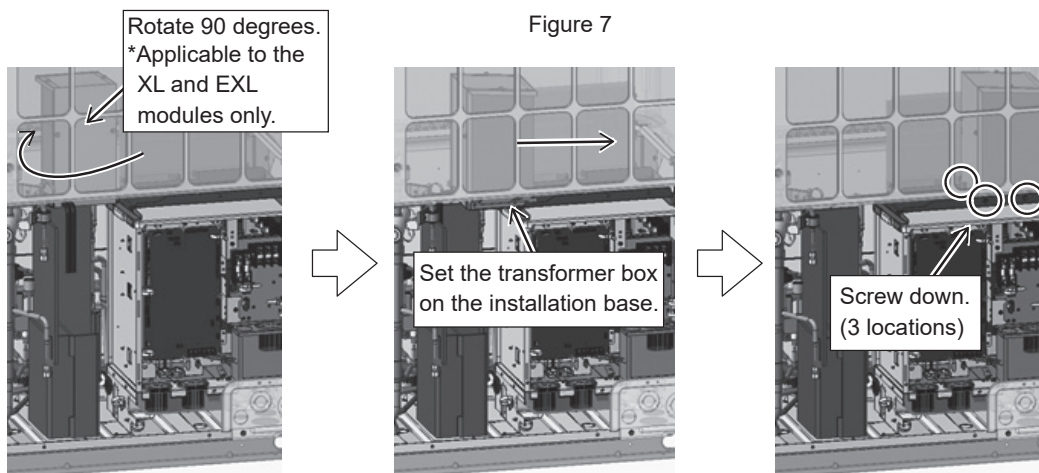

Figure 8
- (9) Lift the transformer box to the position as shown in the figure, rotate the transformer box 90 degrees (*applicable to the XL and EXL modules only), move the box to the designated position, and screw it down. (3 screw as shown in Figure 8.)